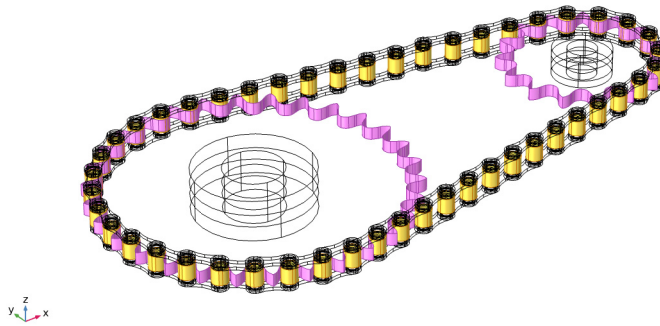

Figure 4: Contact between the Roller Outer Boundaries and Sprocket Outer Boundaries.
- **Roller Outer Boundaries:** This boundary selection contains the outer cylindrical surfaces of all the roller plates. The selection is used for creating **Contact Pair** nodes for modeling contact between links and sprockets, as shown in Figure 4.
- **Sprocket Outer Boundaries:** This boundary selection contains the outer surfaces of the sprockets. The selection is used for creating a **Contact Pair** for modeling contact between links and sprockets as shown in Figure 4.